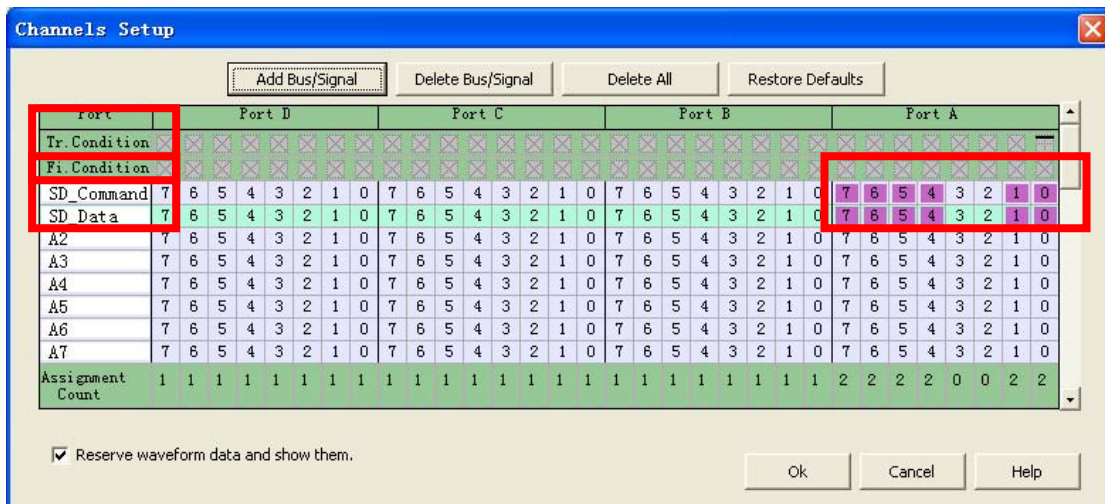
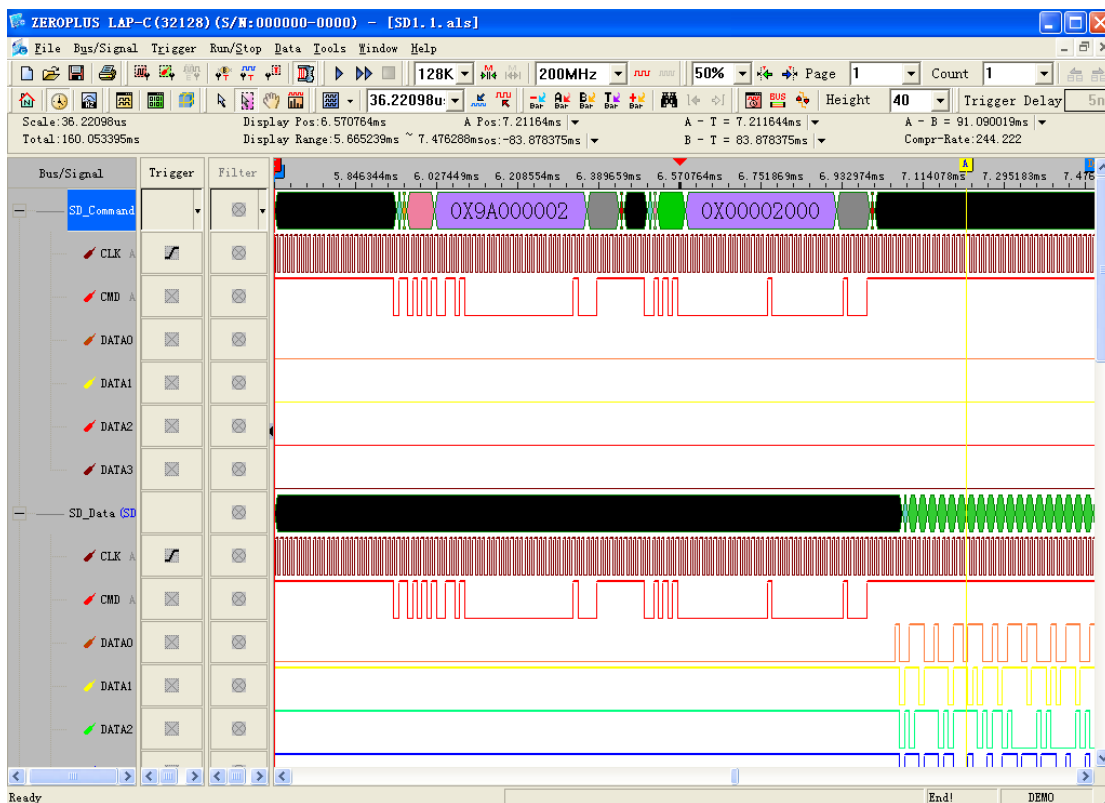

Figure 6: Channels Setup Dialog Box
Figure 7: The result of analyzing the Command and Data at the same time
2. Open the **Channels Setup** dialog box, then select the A0, A1, A4, A5, A6 and A7 of the two Buses respectively. After the setting is completed, see the Figure 6 and Figure 7: